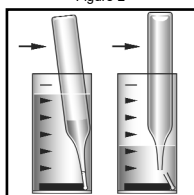

Figure 3
3. Place the Vacu-vial ampoule, tip first, into the sample cup. Snap the tip. The ampoule will fill leaving a tiny bubble for mixing (fig. 3).